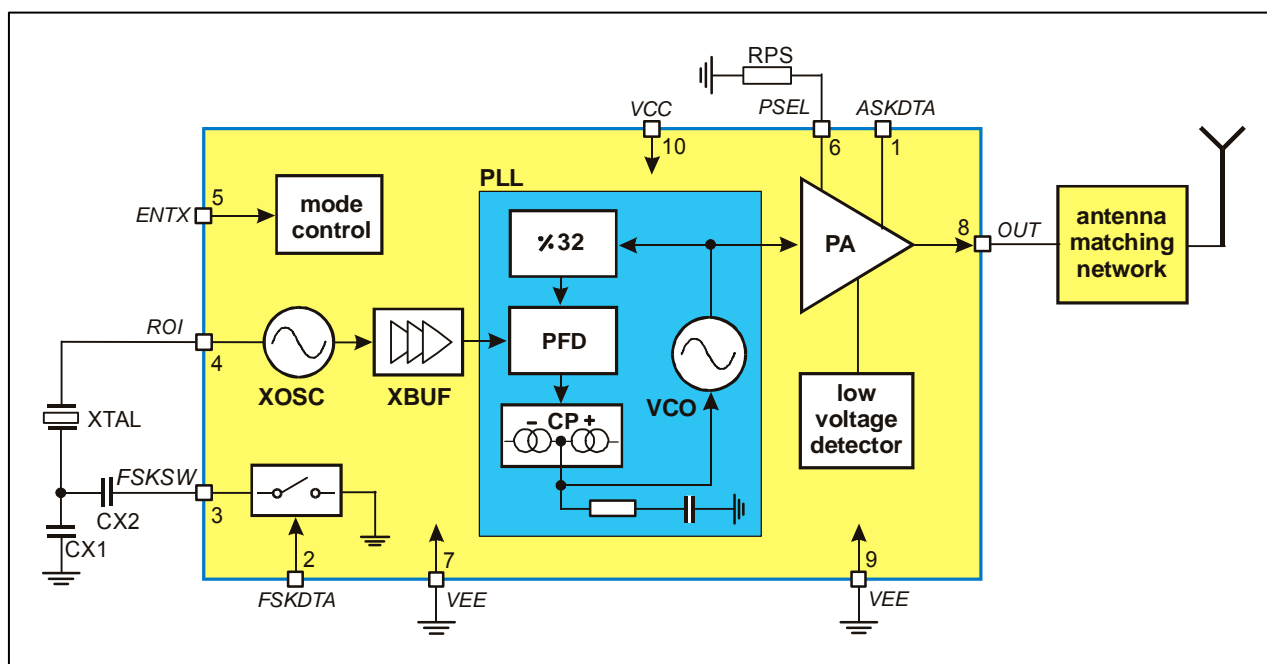

Fig. 1: Block diagram with external components
As depicted in Fig.1, the TH72005 transmitter consists of a fully integrated voltage-controlled oscillator (VCO), a divide-by-32 divider (div32), a phase-frequency detector (PFD) and a charge pump (CP). An internal loop filter determines the dynamic behavior of the PLL and suppresses reference spurious signals. A Colpitts crystal oscillator (XOSC) is used as the reference oscillator of a phase-locked loop (PLL) synthesizer. The VCO's output signal feeds the power amplifier (PA). The RF signal power P_{out} can be adjusted in four steps from $P_{out} = -12$ dBm to $+11$ dBm, either by changing the value of resistor RPS or by varying the voltage V_{PS} at pin PSEL. The open-collector output (OUT) can be used either to directly drive a loop antenna or to be matched to a 50Ohm load. Bandgap biasing ensures stable operation of the IC at a power supply range of 1.95 V to 5.5 V.